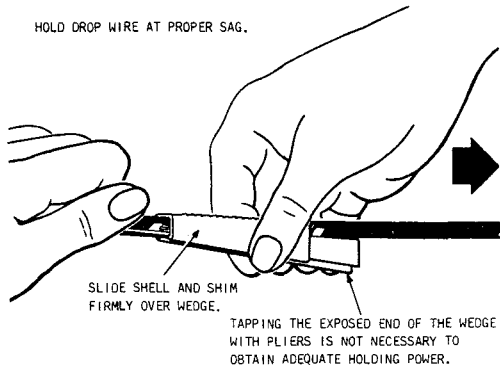
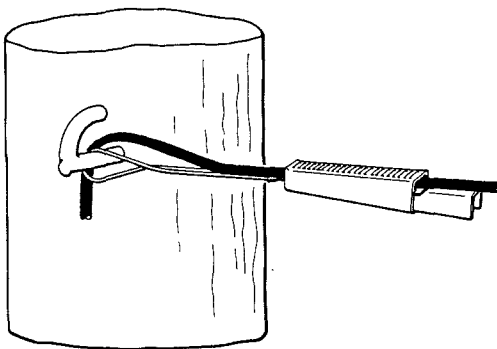

Fig. 12—Completing Installation of Clamp on Drop Wire
Fig. 13—Drop Wire Clamp Installed
4.06 Hold the drop wire at proper sag with one hand while sliding the shell and shim firmly over the wedge as shown in Fig. 12. Figure 13 illustrates the drop wire clamp installed on drive hook.